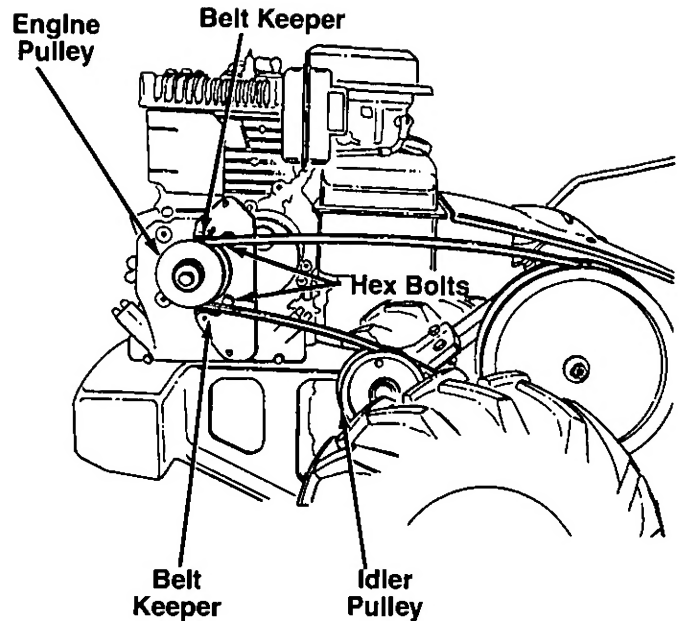

FIGURE 11.
3. Remove the belt keeper assembly located behind the engine pulley by removing two hex bolts and lock washers. See figure 11.
**NOTE:** Upon reassembly, make certain the belt is routed over the idler pulley and inside of belt keepers by engine pulley. See figure 11.